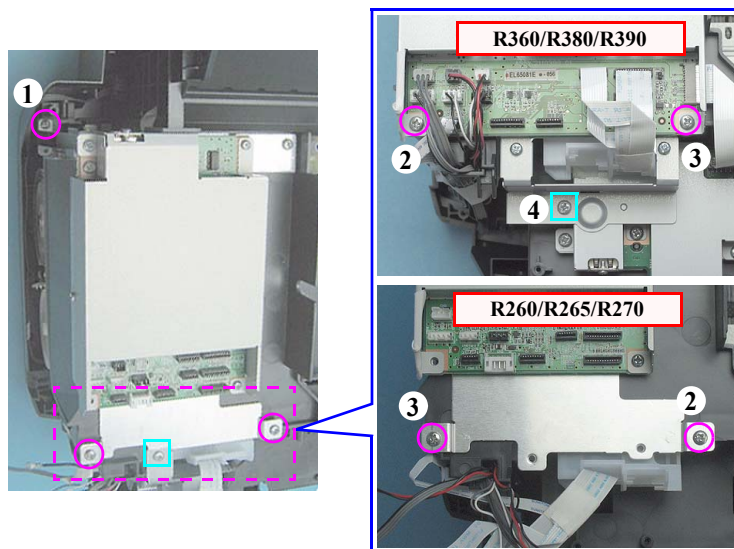

Figure 4-54. Removing the Main Board (1)
1. Install the MB Frame to the the Lower Housing, and make sure that the Ground Plate MB contacts with the Main Frame. (Screw (1) in Fig.4-54)
2. Install the Main Board Unit screwing it in the order given in Fig.4-54.